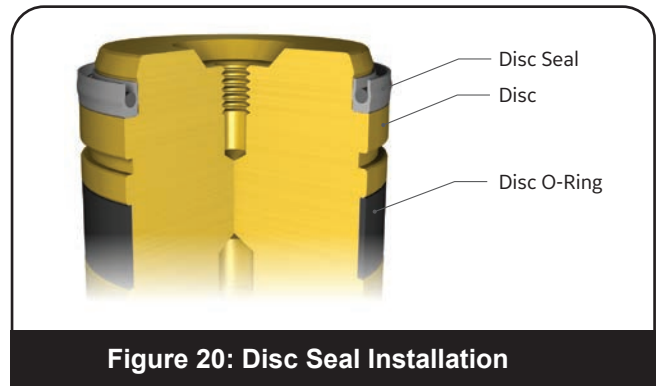

Figure 20: Disc Seal Installation
1. For Teflon seals make sure of the integrity of the Teflon seal and seal spring. Install Disc Seal on Disc outside diameter on the opposite end of the disc seat as shown in Figure 20.